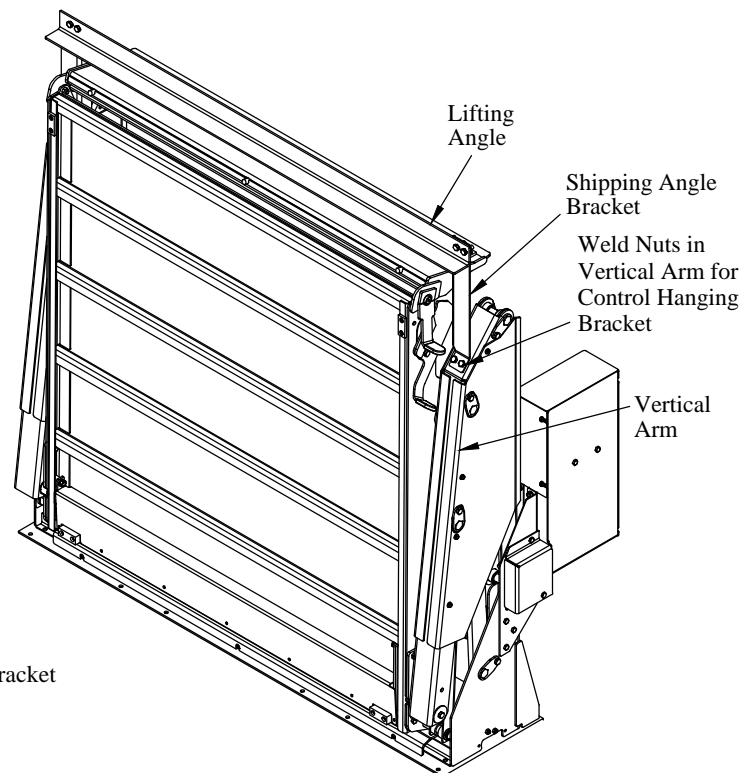

Figure 19: Lifting angle and vertical arm.
5. **Unbolt** and **Remove** the lifting angle and brackets (Figure 19). There are weld nuts inside the vertical arm.
12. **Install** second control hanging bracket with supplied 3/8" bolts on the passenger side vertical arm where the lifting angle was removed (Figure 19).